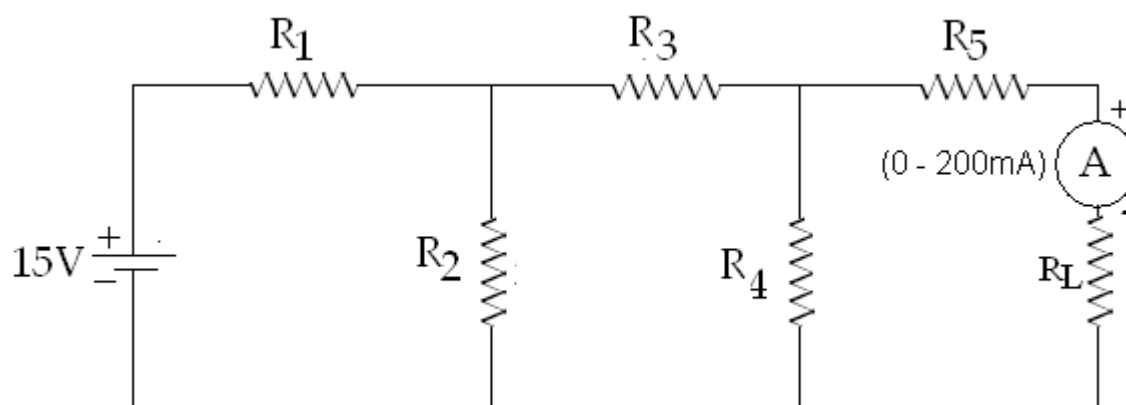

Fig.1
1. Connect the circuit diagram as shown in fig.1 and measure the load current I_{L1} .